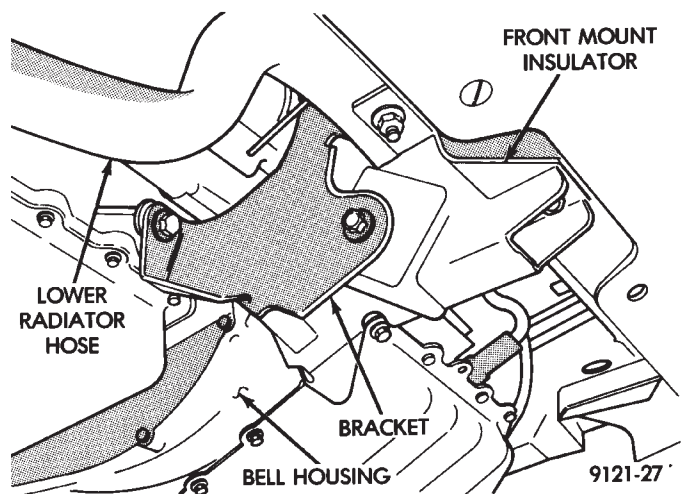

Fig. 5 Remove Front Engine Mount
- (11) Remove front engine mount insulator and bracket (Fig. 5).